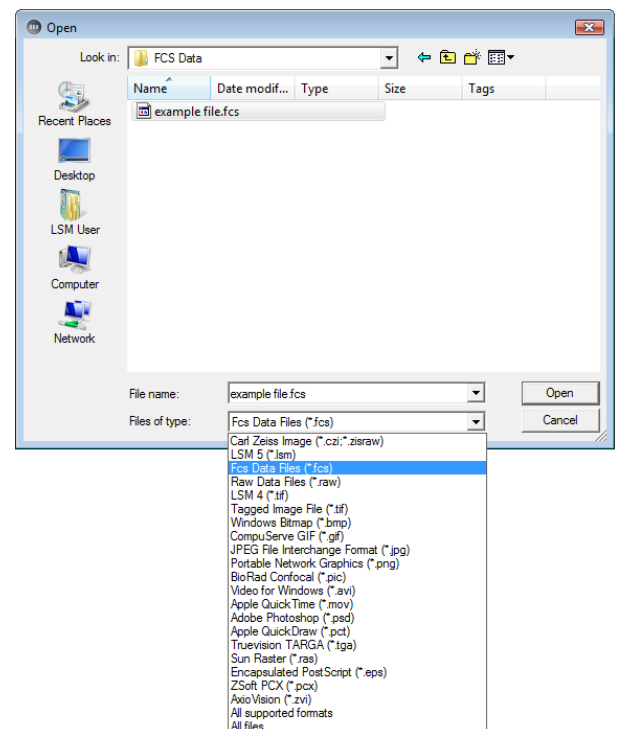

Fig. 357 Open dialog
- Go to **File** and then choose **Open**. This will open the **Open** dialog box for the selection of drives, directories and subdirectories in which data files have been stored (Fig. 357).